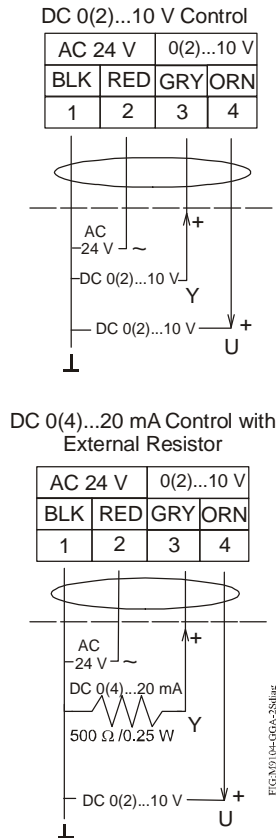

Figure 10: M9104-GGA-2S Control Wiring Diagram
The M9104-GGA Series Electric Non-Spring Return valve actuators require AC 24 V power and a DC 0(2) to 10 V or 0(4) to 20 mA controller input signal. These electric actuators include an integrated 48 in. (1.2 m) long cable. See Figure 10 for proper wiring.